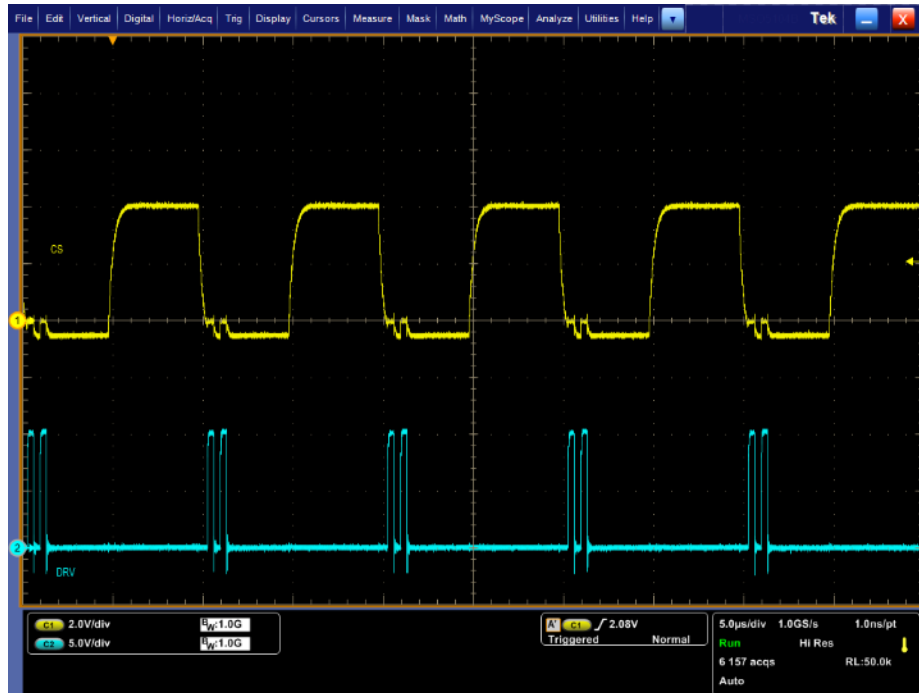

Figure 2: $V_{CC} = 12\text{ V}$, $f = 100\text{ kHz}$, $DC = 50\%$, $V_{LOW} = -1\text{ V}$, $V_{HIGH} = 4\text{ V}$
4. Check that $I_{CC} = 6 - 8\text{ mA}$, waveforms look like in figure 2 (DRV pulse length may oscillate between 330 ns and 5 us, in case of short time there may be two pulses – like it is shown in figure)